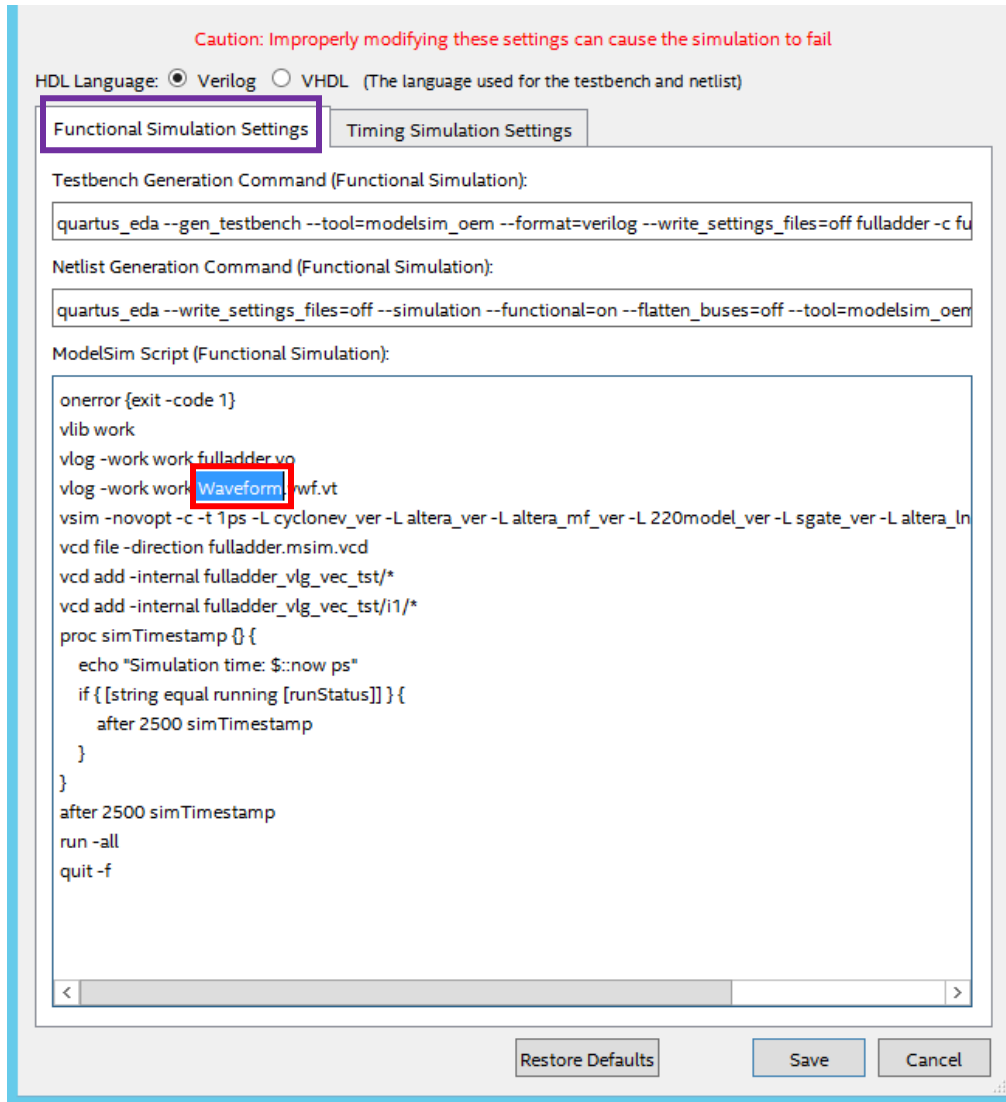

Fig 2a.
- a. Change the highlighted **Waveform.vwf.vt** in the above image to **fulladder.vwf.vt** (See Fig 2a.)